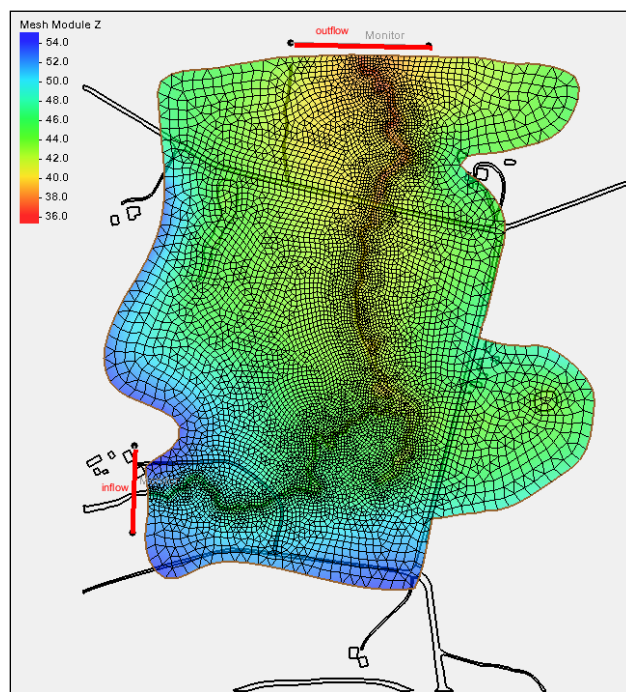

Figure 2 Position of the BC arcs
8. Use the **Create Feature Arc** dynamic tool to digitize the outflow (upper) and inflow (lower left) locations of this simulation as shown in Figure 2.